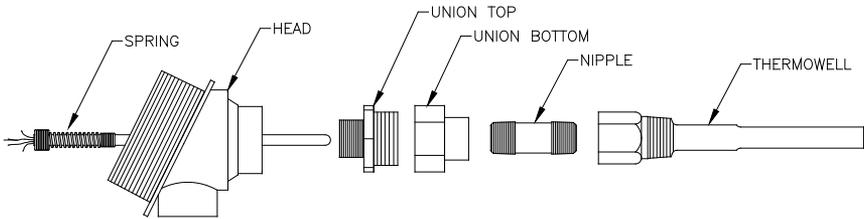

Fig. 6: RTD probe assembly
1. Install the thermowell into the meter run, and tighten (Fig. 6). Install the  $\frac{1}{2}$ " stainless steel nipple into the thermowell, and tighten. Separate the union, and install the female end of the union along with its nut onto the nipple. Once completed, tighten. With the RTD head still loose, screw the male end of the union into the bottom of the head, and tighten.